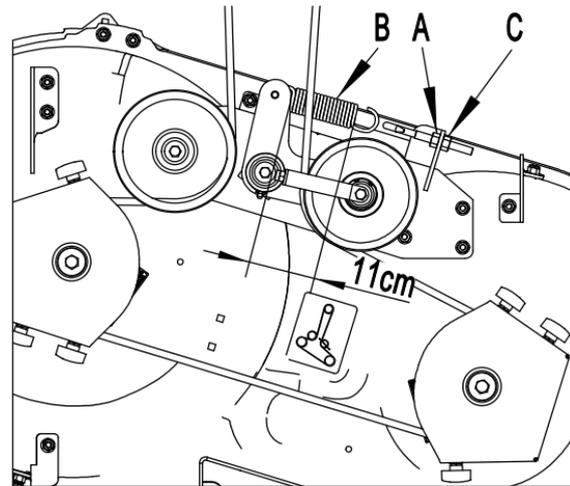

Figure 18
7.3.3 Increase belt tension by turning the draw nut (C) clockwise and decrease belt tension by turning the draw nut counter-clockwise (Refer to Fig. 18).